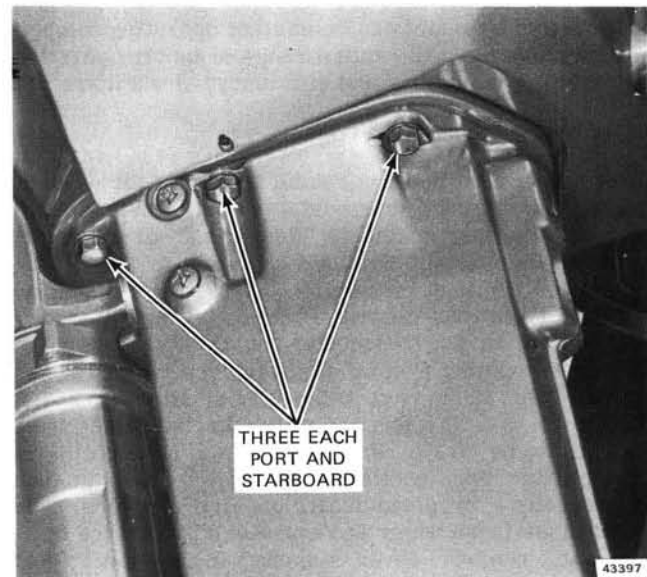

Figure 5-6. Exhaust to Powerhead Screws
c. Remove six screws attaching power head to exhaust housing. See Figure 5-6.